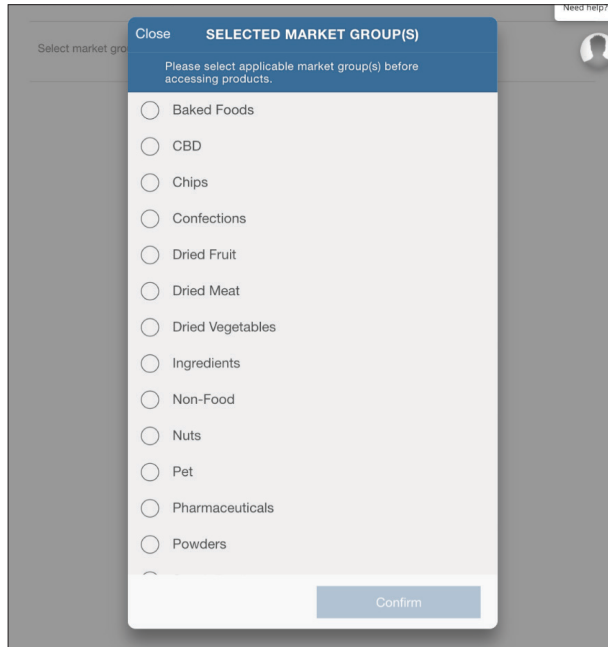

Figure 38 Choose market groups
5. Place cursor in Select market group(s) field to open a market group popup window (Figure 38).
6. Select the **Confirm** button when selections are completed (Figure 38).